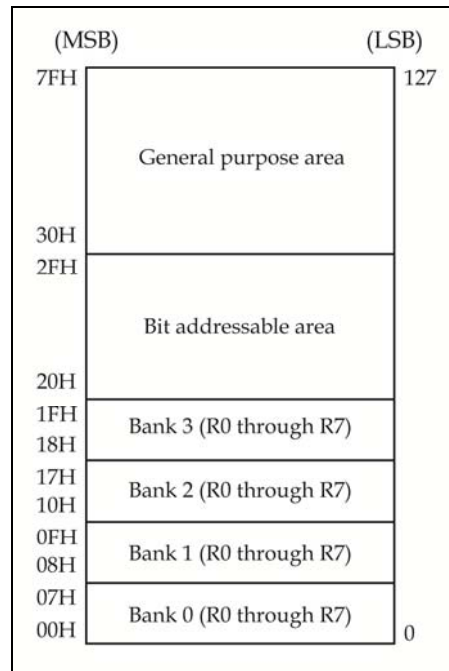

FIG 1.10.1(a)
- The fig. 1.10.1(a) shows the organization of internal RAM.
a) Working registers (32)